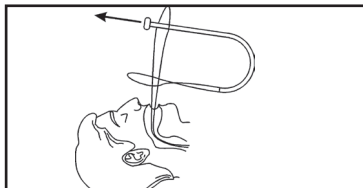

Figure 7
- Pass the dome end of the PEG tube through the insertion wire loop end and pull the entire PEG tube through (Figure 7).